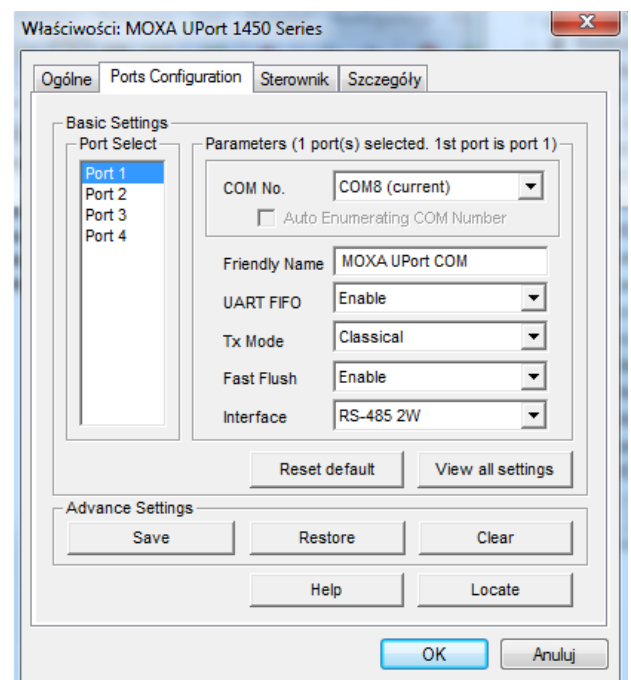

Fig. 1 MOXA card properties
- After the computer restarts, you must configure the communication port to the standard used by manipulator software. To do this go to system *Device Manager*, find and expand a *Multiport Serial Cards* tab and then double click on the MOXA (Fig. 1).